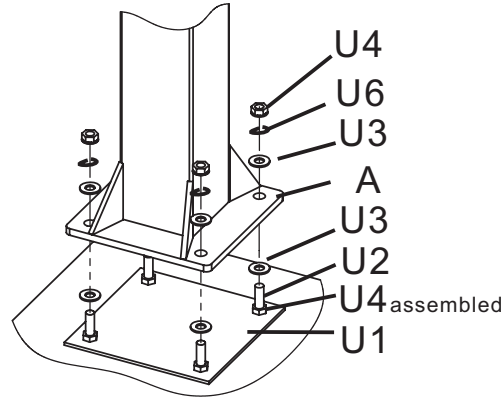

Figure4
Slide one Thick washer M16 (U3) over each J-bolt (U2). Lift the Pole (A) onto Anchor system, secure with one thick washer (U3), one Lock washer M16 (U6) and one Hex nut (U4) for each J-bolt. See **Figure 4**.